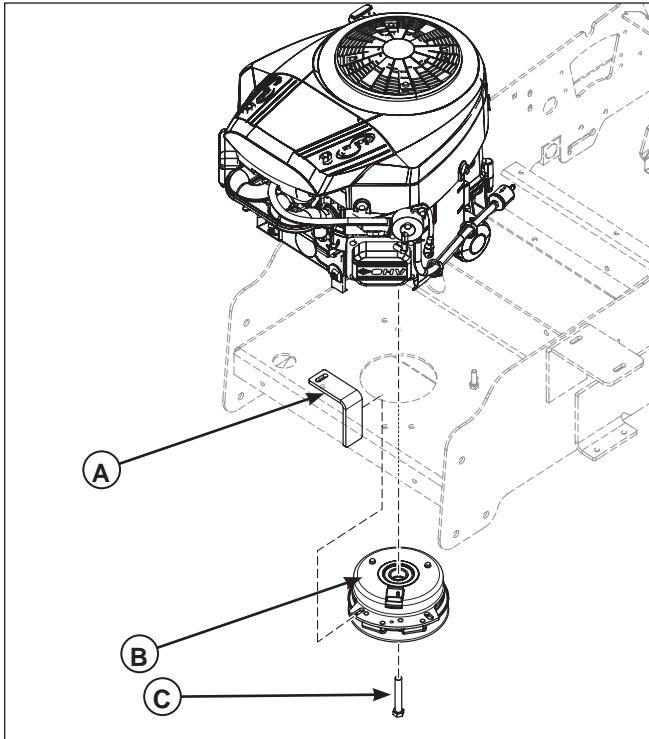

Figure 43. Removing the PTO Clutch
3. Loosen and remove the crankshaft bolt (C, Figure 43) and the PTO clutch (B) from the engine crankshaft.